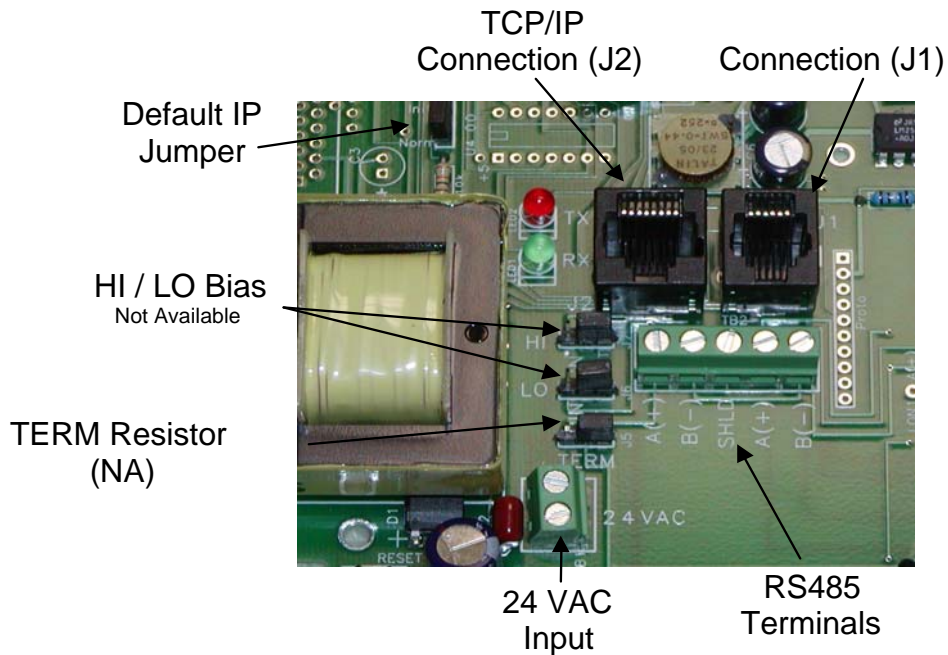

Figure 1
- TCP/IP - If using TCP/IP use RJ45 Category 5 Ethernet cable to connect the Gateway (J2) to the network hub or computer. (See Figure 1).
- RS232 - If using RS232 RTU/ASCII use the MOD9200-RS232 cable (sold separately) to connect the Gateway (J1) to the serial port on the computer (See Figure 1).
- RS485 - If using RS485 RTU/ASCII use 18 gauge shielded twisted pair wire to connect the Gateway (Terminals A+ & B-) to the MODBUS master. When running the RS485 loop into a breaker panel use wire with appropriate insulation for the voltage present (See Figure 1).